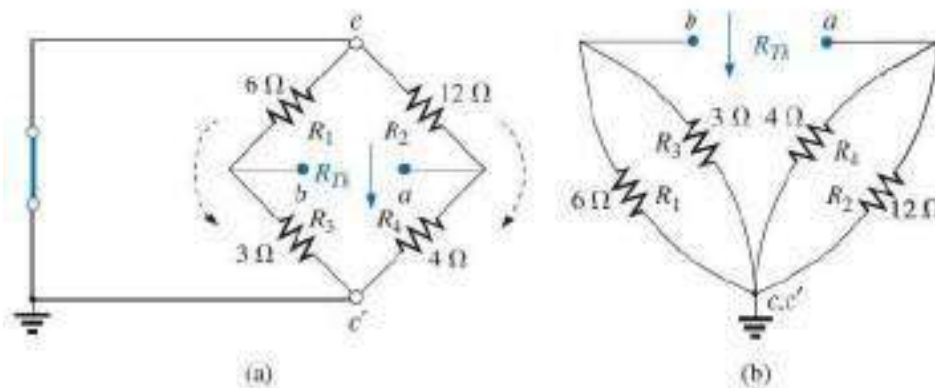

FIG. 9.45
Step 3: See Fig. 9.45. In this case, the short-circuit replacement of the voltage source E provides a direct connection between c and $c_$ in Fig. 9.45(a), permitting a “folding” of the network around the horizontal line of a - b to produce the configuration in Fig. 9.45(b).